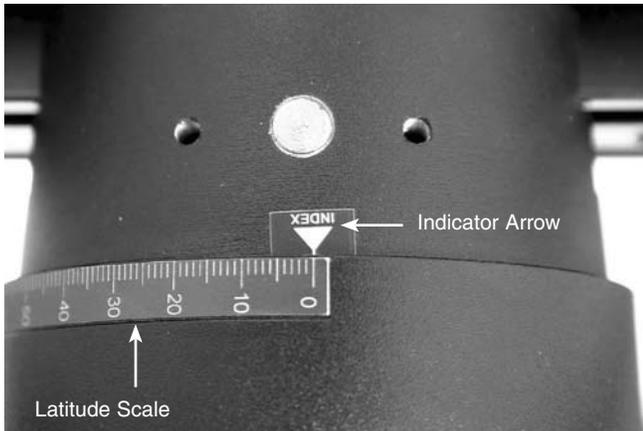

Figure 8. Setting the Latitude
4. There is a latitude scale near the top of the TeleTrack fork arm with a value range from 0° to 90°. One of the three latitude indicator arrows should be pointing close to the “0” mark on the latitude scale (see Figure 8). If not, remove the L-bracket or dovetail plate from the mount, and use the “UP” or “DOWN” buttons to rotate the mount 180° in altitude, then reattach the telescope. (When reattaching the telescope, keep in mind that the objective lens of the telescope should be on the side of the mount without the latitude scale, see Figure 6).